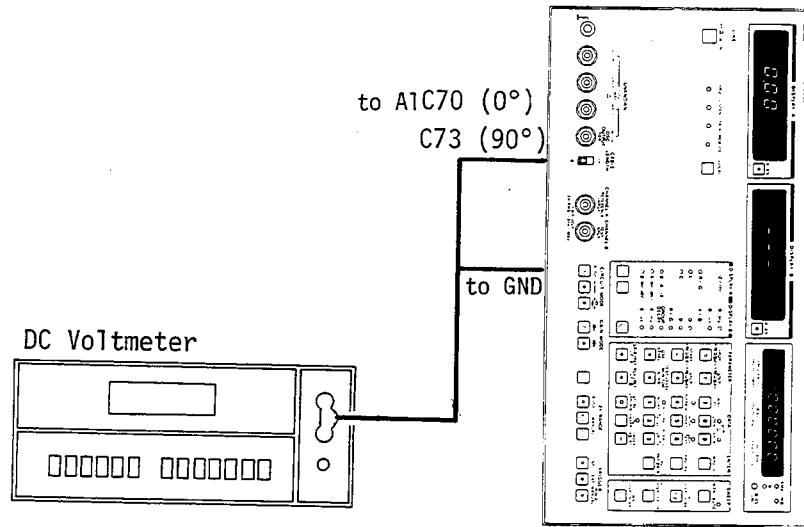

Figure 5-13. A1 Null Detector DC Offset Adjustment Setup.
- d. Connect the dual banana plug-to-alligator clip cable to the 3465A; connect the high lead to the one lead (0°) of A1C70 and the low lead to the chassis as shown in Figure 5-13.